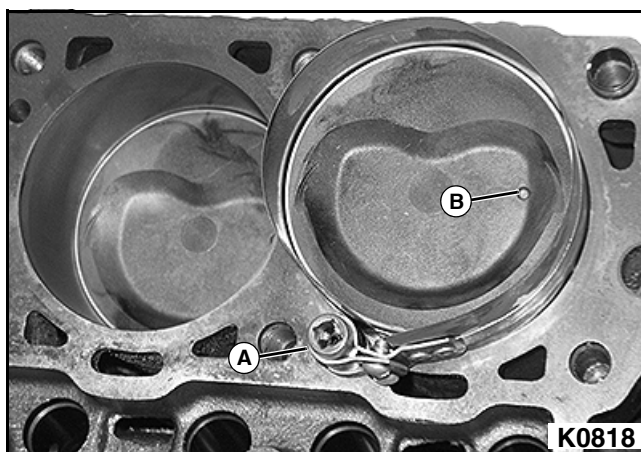

Figure 3-220
4. Using a piston ring compressor (A), with the front marks (B) facing the front side of engine, insert each piston connecting rod into the cylinder block. **See Figure 3-220.**